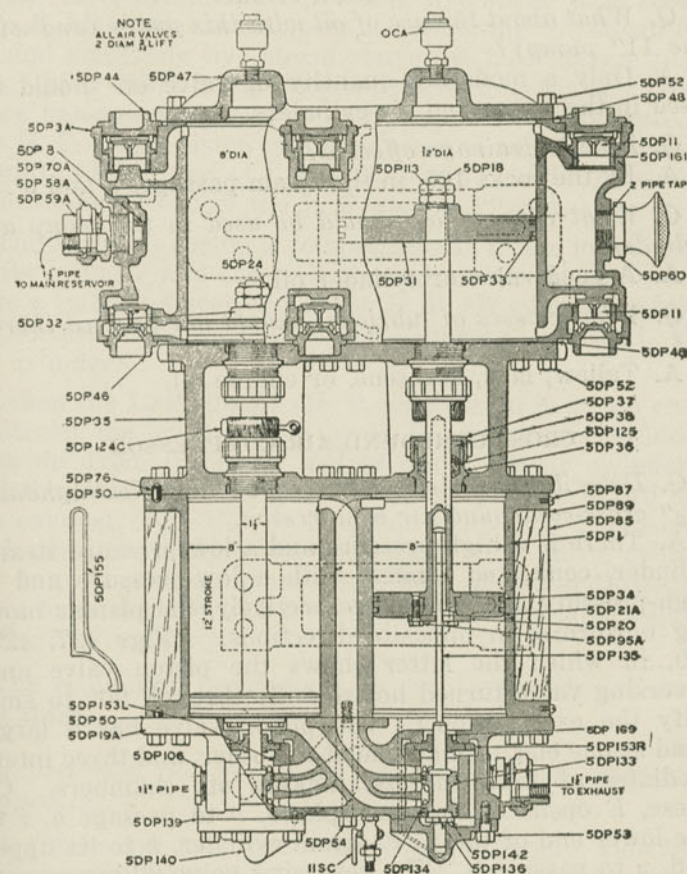

Fig. 430. No. 5B New York Duplex Air Compressor.
A. There are two equal size steam cylinders, side by side, one coupled tandem with the low pressure air cylinder, the other tandem with the high; when the pistons on the high pressure side are at stroke end, as in Fig. 430, those in the low are at half stroke. The steam valves are actuated by tappets, the rods of which pass centrally into the hollow piston rods.